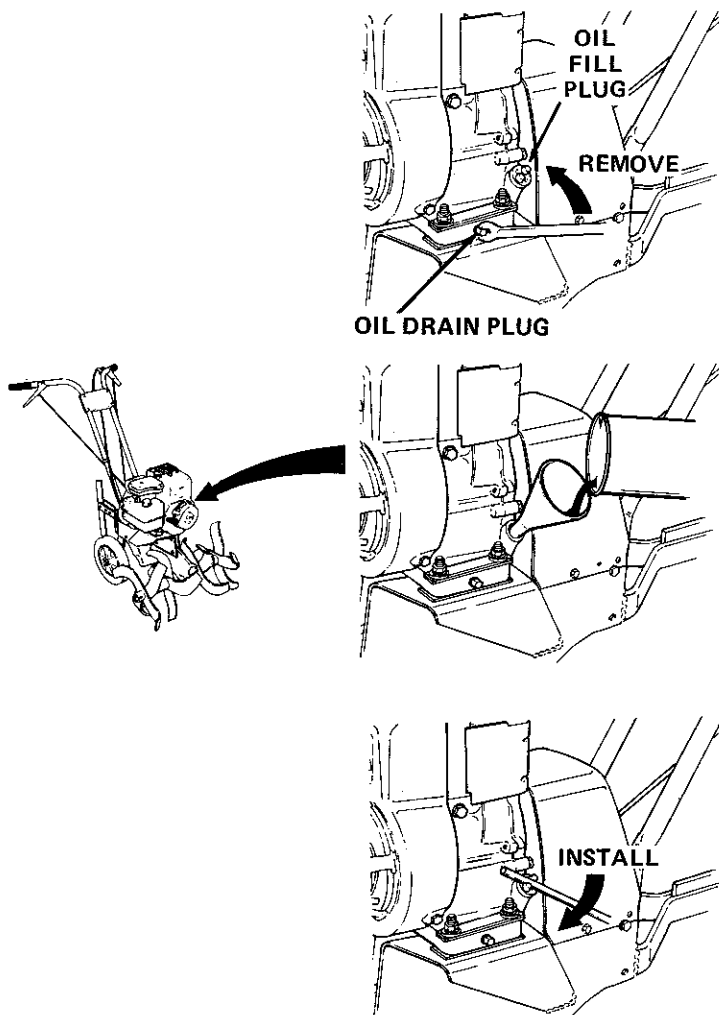

Figure 7. Change Engine Oil (25-Hour Care)
2. Change oil. (See figure 7 in this manual for instructions.)